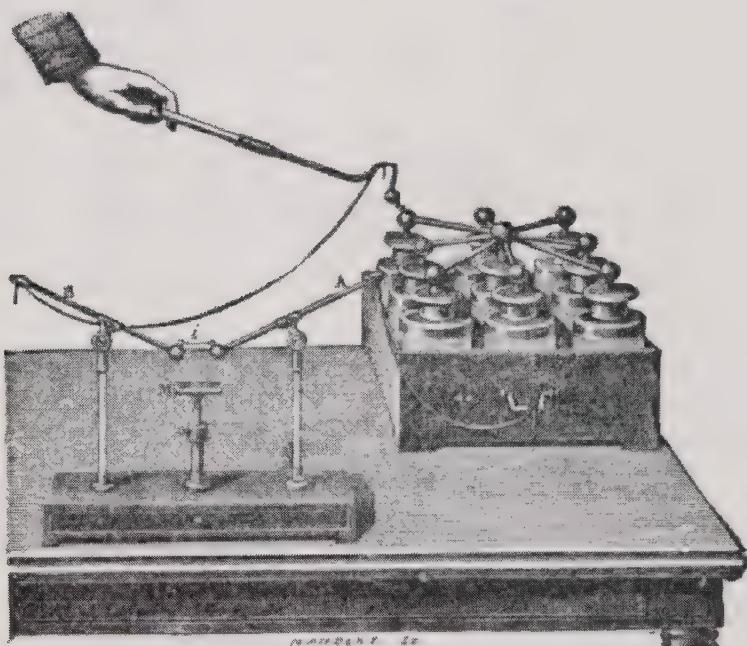

Fig. 27. Melting a Wire with a Battery of Leyden Jars.
**Example 3.** A fine wire melted as shown in Fig. 27.